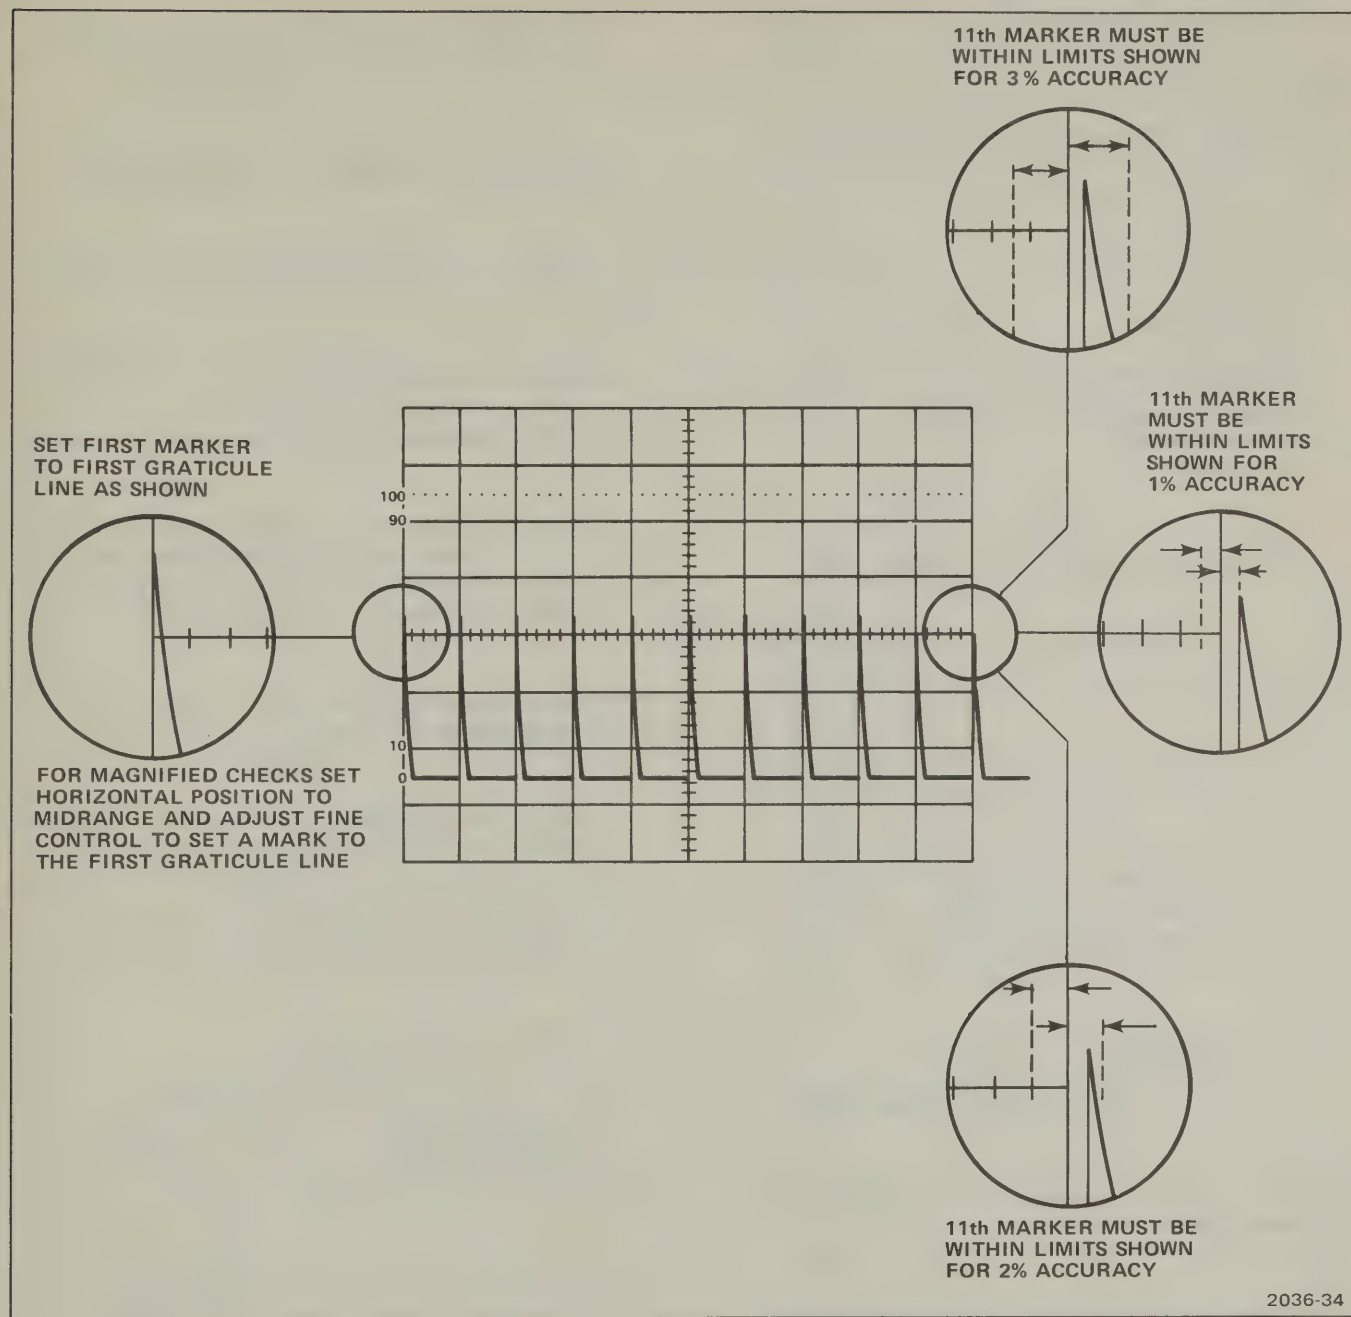

Fig. 3-6. Timing accuracies.
Unless otherwise stated, set POSITION and FINE (HORIZ) controls so the first time marker coincides with the first graticule line and check the error at the last graticule line (see Figure 3-6).
b. CHECK—Timing accuracy is within 1% at TIME/DIV settings from .01 μ s to 5 ms (see Figure 3-6).
c. CHECK—Timing accuracy is within 2% at TIME/DIV settings from .05 μ s to .5 s (see Figure 3-6).
c. CHECK—Timing accuracy is within 3% at TIME/DIV settings from .05 μ s to .5 s (see Figure 3-6).
f. CHECK—Timing accuracy is within 2% at TIME/DIV settings from .01 μ s to .05 μ s (see Figure 3-6).